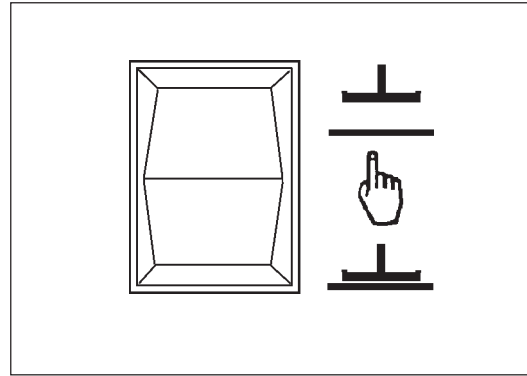

Figure 24
1. To lower the squeegee and start the vacuum motor, press the squeegee up/down switch to the down position (figure 24). **NOTE: The vacuum motor will start immediately when the down position of the switch is pressed, and the squeegee will lower.**
2. To raise the squeegee, press the squeegee up/down switch to the up position (figure 24). The squeegee will then raise and the vacuum motor will shut off after short delay **NOTE: The center position of the squeegee up/down switch is for use with one touch control.**